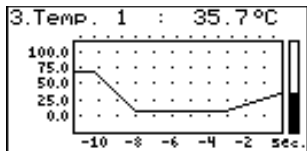

Fig. 6.8. "graph" mode
- "Graph" mode (Fig. 6.8) enables the momentary values or averaged values of measurements conducted for one of measurement channels to be viewed in the form of a graph.